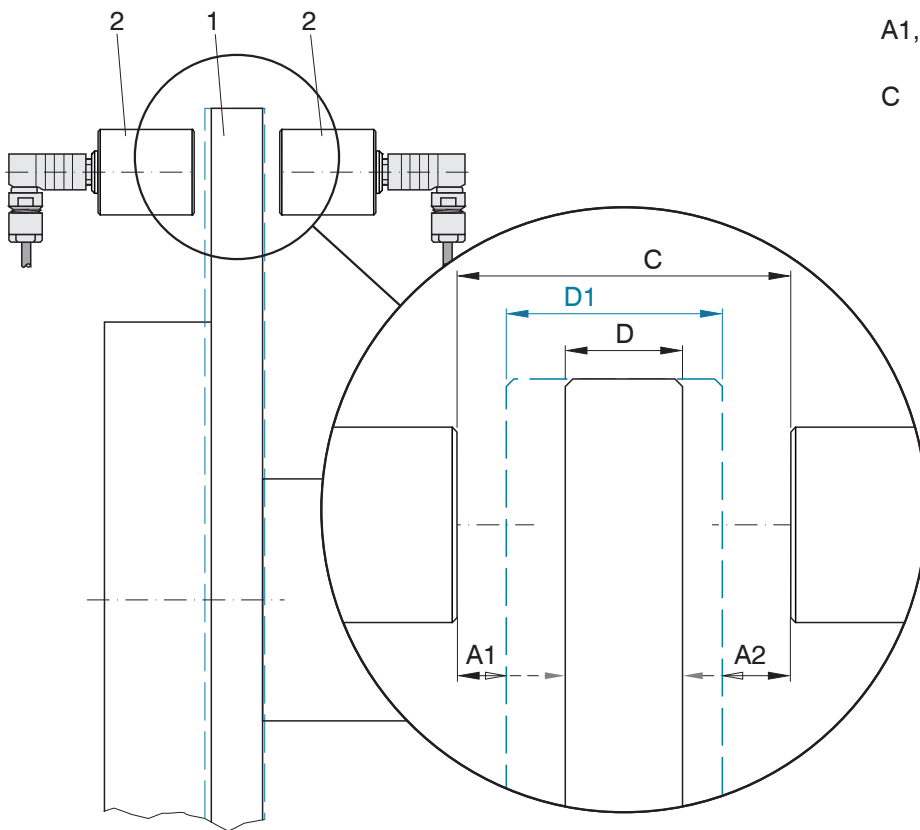

Fig. 1 Principle of thickness measurement with opposite distance measurement
Known sensor to sensor distance: The distance between both sensors is known, see Fig. 1 variable (C). The software calculates out of both distance values the thickness of the disk, see Fig. 2.